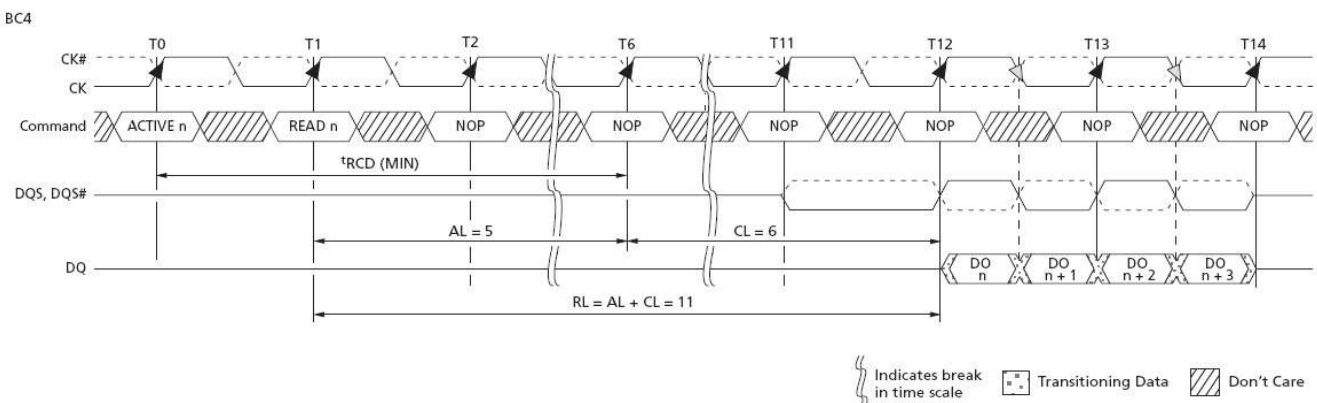
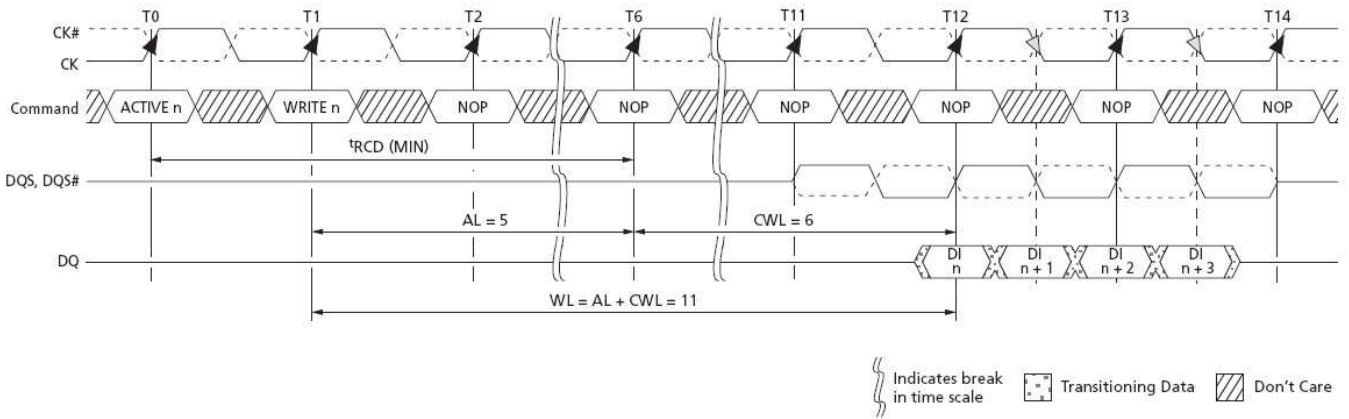

Figure 4-44: READ Latency (AL = 5, CL = 6)
Figure 4-46: CAS WRITE Latency
Posted CAS additive latency (AL) is supported to make the command and data bus efficient for sustainable bandwidths in DDR3(L) SDRAM. MR1[4, 3] define the value of AL (see Figure 4-44). MR1[4, 3] enable the user to program the DDR3(L) SDRAM with AL = 0, CL - 1, or CL - 2.
With this feature, the DDR3(L) SDRAM enables a READ or WRITE command to be issued after the ACTIVATE command for that bank prior to tRCD (MIN). The only restriction is ACTIVATE to READ or WRITE + AL ≥ tRCD (MIN) must be satisfied. Assuming tRCD (MIN) = CL, a typical application using this feature sets AL = CL - 1tCK = tRCD (MIN) - 1tCK. The READ or WRITE command is held for the time of the AL before it is released internally to the DDR3(L) SDRAM device. READ latency (RL) is controlled by the sum of the AL and CAS latency (CL), RL = AL + CL. WRITE latency (WL) is the sum of CAS WRITE latency and AL, WL = AL + CWL (see section: Mode Register 2 (MR2)). Examples of READ and WRITE latencies are shown in Figure 4-44 and Figure 4-46.